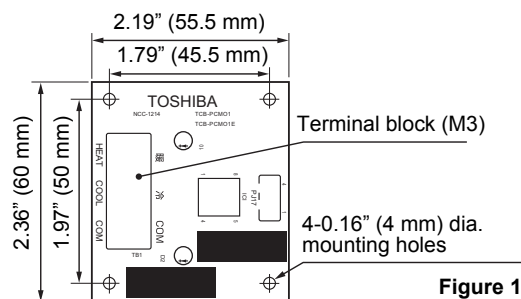

Figure 1
- Insert four fixing supports (2) into the holes on the “Optional PCB”. (See Figure 1)